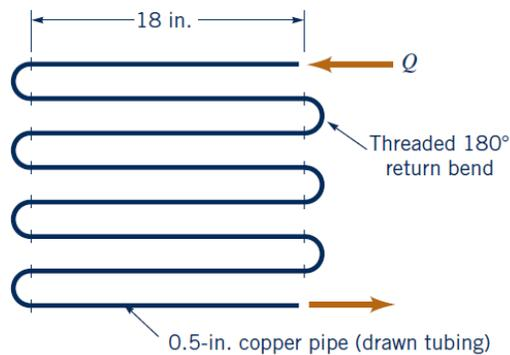

Fig. 3
6. Water at 40° F flows through the coils of the heat exchanger as shown in Fig. 3 at a rate of 0.9 gal/min. Determine the pressure drop between the inlet and outlet of the horizontal device.